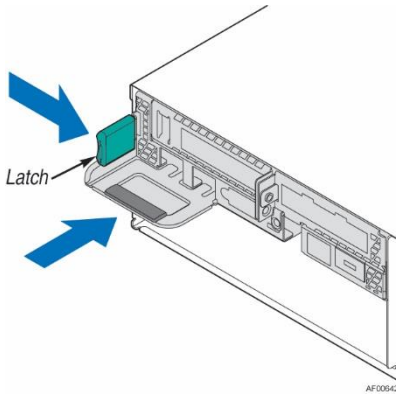

Figure 30. Installing the compute module
3. While pressing the latch, push the compute module along the chassis rail until the latch locks in position (Figure 30).